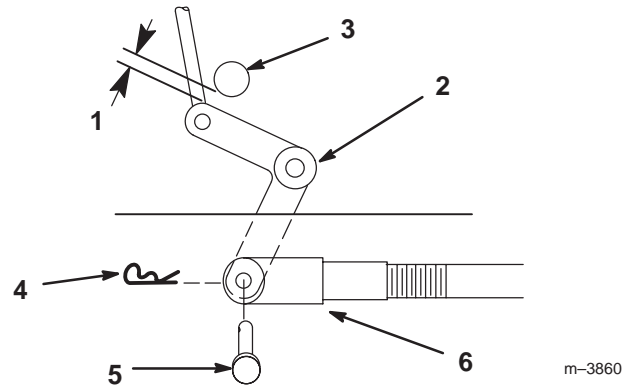
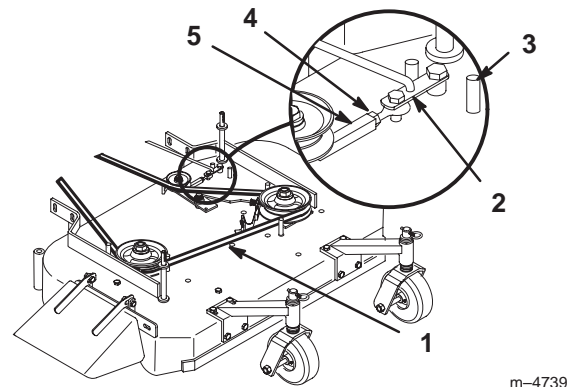

Figure 48
Figure 49
7. Engage PTO lever and check the clearance between the bellcrank and the transmission output shaft (Fig. 48). Space should be 1/16–1/8 in. (2–3 mm).
8. Remove hairpin cotter and clevis pin from bellcrank. Rotate clevis clockwise on rod to increase or counterclockwise to decrease clearance (Fig. 48).
9. Disengage the PTO. If the assist arm does not contact the front stop on the mower deck (Fig. 49), readjust the clevis to bring the bellcrank closer to the transmission output shaft (Fig. 48).
2. Loosen locknut on turnbuckle (Fig. 49).
3. Rotate turnbuckle toward rear of mower to increase tension on belt. Rotate turnbuckle toward front of mower to decrease tension on belt (Fig. 49).